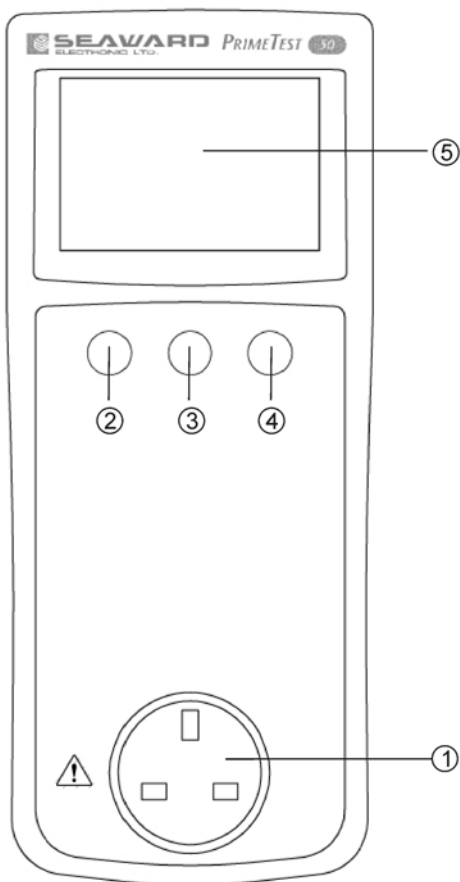
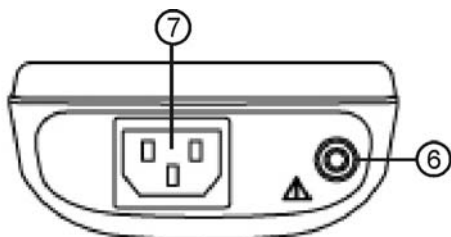

Figure 1. PrimeTest 50 Front View
Figure 2. PrimeTest 50 End View
Numbers shown in circles e.g. ① refer to figure 1 and figure 2 on page 5.